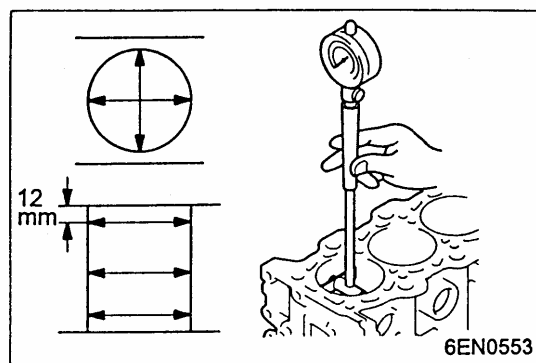

Fig.4-97
(3) Check the cylinder walls for cracks and seizure marks. If defects are evident, bore all the cylinders to oversize or replace the cylinder block.
(4) Using a cylinder gauge, measure each cylinder's bore and cylindricity. If any cylinder is severely worn, bore all the cylinders to oversize and replace the piston and piston rings accordingly. Take measurements at the points shown, see Fig.4-97.